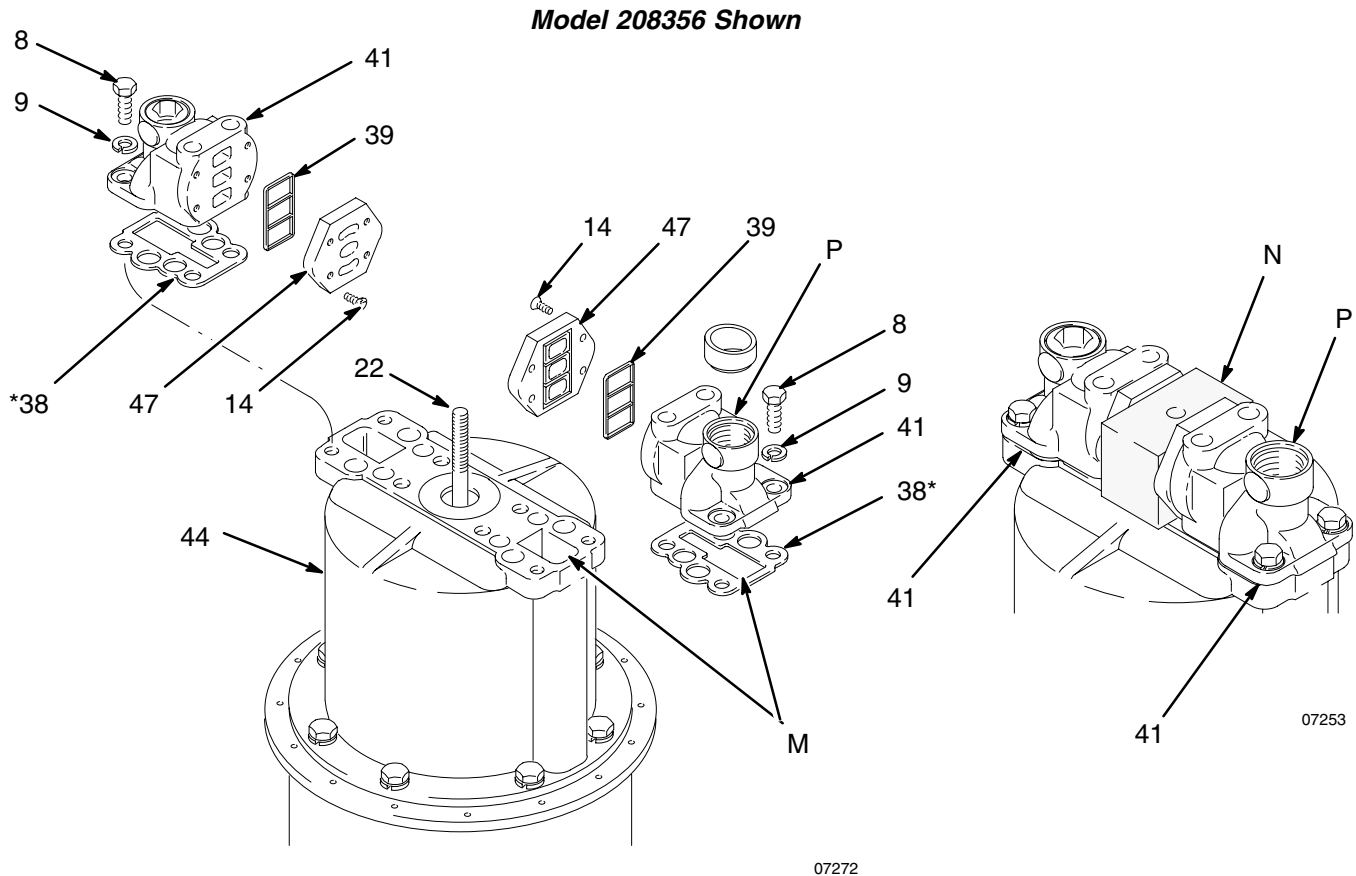

Fig. 8
12. See Fig. 8. Make sure the seals (39) are in place on the valve plates (47). Attach the plates to the manifolds (41) with the screws (14).